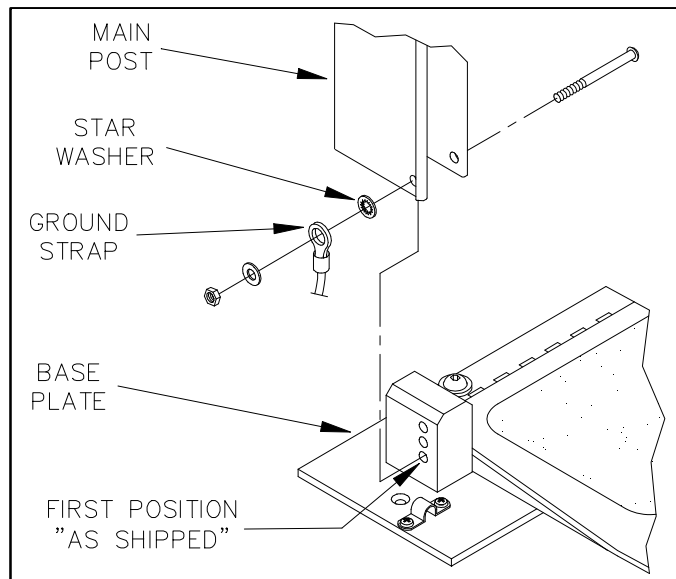

FIGURE 2-10: BASE PLATE MOUNTING
- b. Refer to **Figure 2-10**. Move base plate to appropriate position.